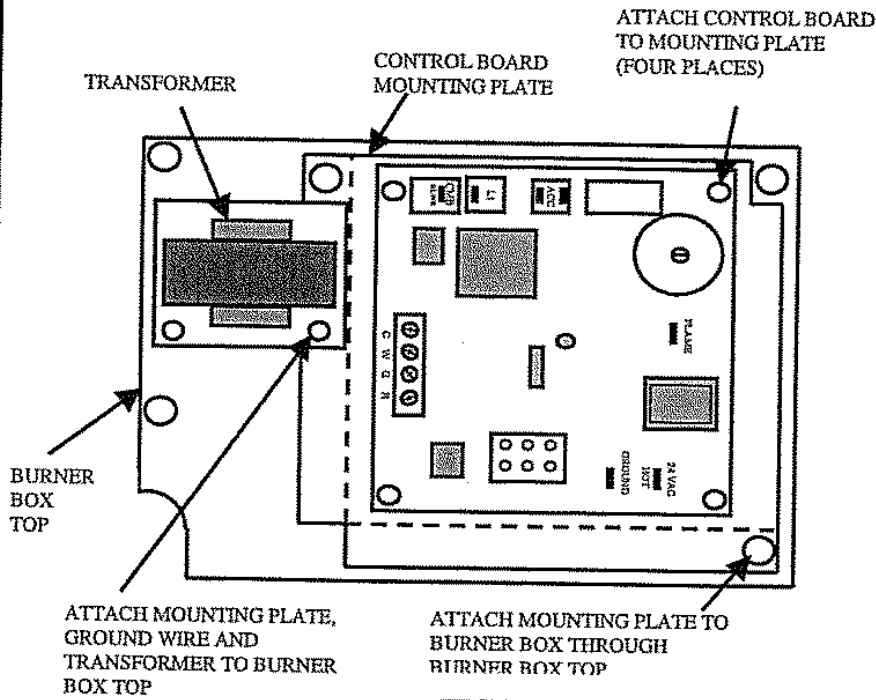

FIGURE 2
- 7- Using the four screws removed in step 6, attach the new control board to the control board mounting plate. Locate the control board so that the 6-pin connector is next to one of the mounting plate flanges and so that the thermostat connections are next to the other mounting plate flange. See **FIGURE 2**.
- 11- Remove the screw that attaches the burner box top cover to the burner box at the corner nearest to the access panel. See **FIGURE 2**.
- 12- Using the screw removed in step 11, attach the control board mounting plate to the burner box. See figure 2.
- 13- Using the two screws removed from the transformer in steps 3 and 4, attach the transformer and control board mounting plate to the burner box top cover. Make certain that the new GREEN/YELLOW case ground wire is under one of these screws. See **FIGURE 2**.